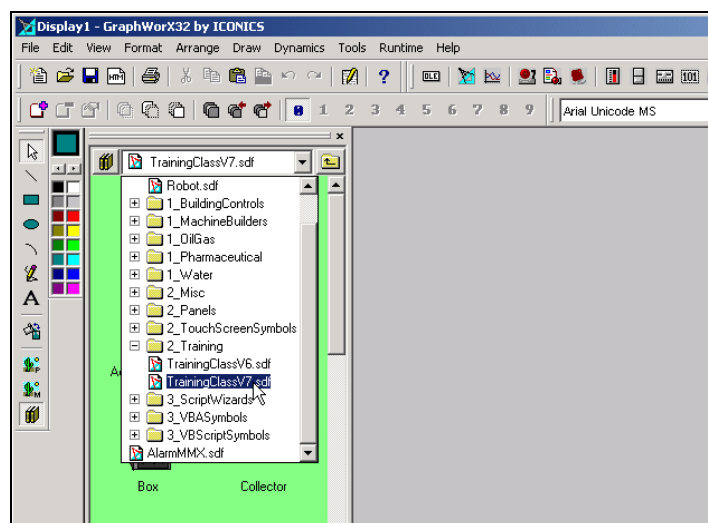

Figure 5.18
2. To find the Logan Airport image browse to **Training→Training Class V7.sdf** in the dropbox located at the top of the **Symbols** toolbar, as shown in **Figure 5.18**.